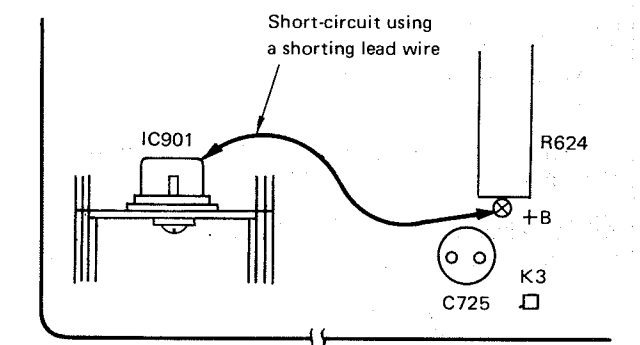

Fig. 2
3. Short-circuit between the case of IC901 and +B using a shorting lead wire as shown in Fig. 2.